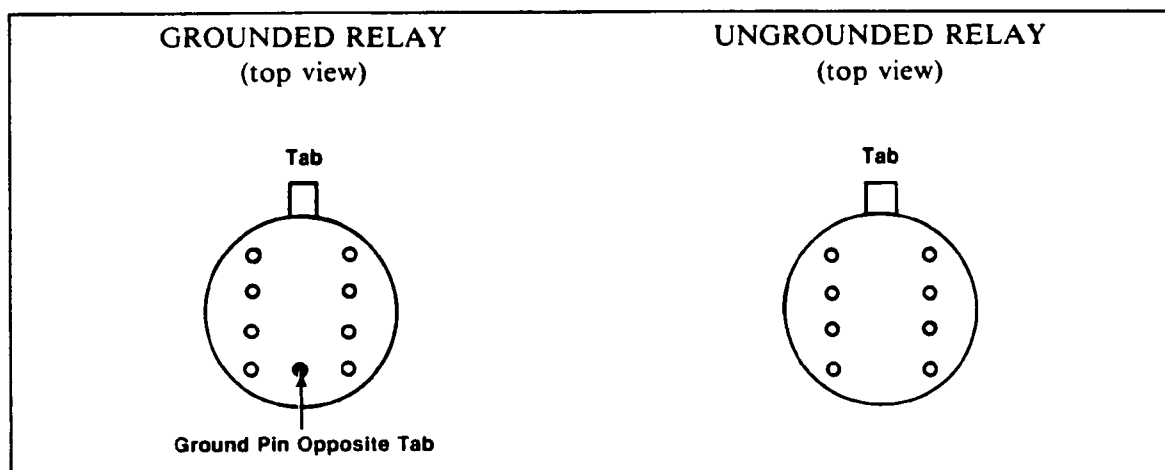

Figure 3. Grounded and Ungrounded Relays.
1. Check the relay to see if the case is grounded as shown in figure 3.